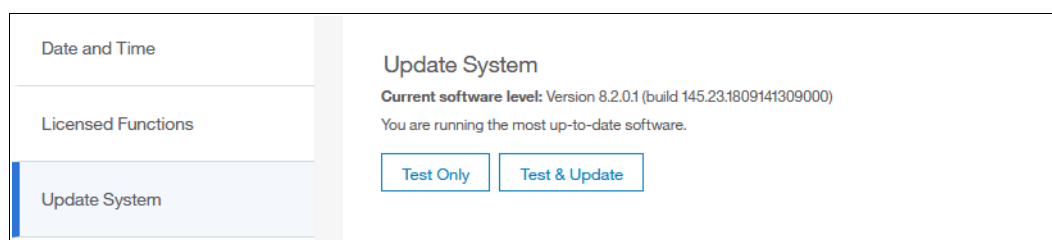

Figure 7-59 New level of installed software shown
16. The update process completes when all nodes and the system unit are committed. The final status indicates the new level of code installed in the system, as shown in Figure 7-59.